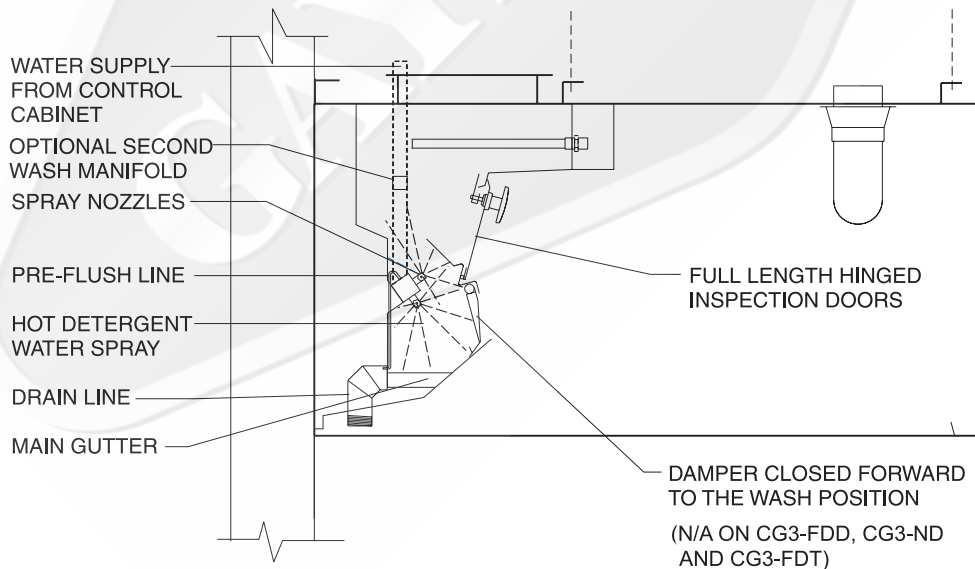

FIG. 3
The wash cycle is activated each time the exhaust fan is shut off by pushing the **"Start Wash"** button on the Command Center or as programmed on the clock. When activated the exhaust and supply fans shut off, the damper control is energized and the damper begins closing forward to the wash position, and once closed the hot water wash sprays come on. The ventilator may be equipped with an optional second wash manifold as shown in Figure 3 and is indicated in the model number, stamped on the ventilator nameplate, by the suffix "DW". This is typically used when extra heavy duty cooking equipment is under the ventilator.
2. The damper begins closing forward to the wash position. (See Figure 3, page 7). This action takes approximately 45 seconds. (N/A on CG3-FDD and CG3-ND)